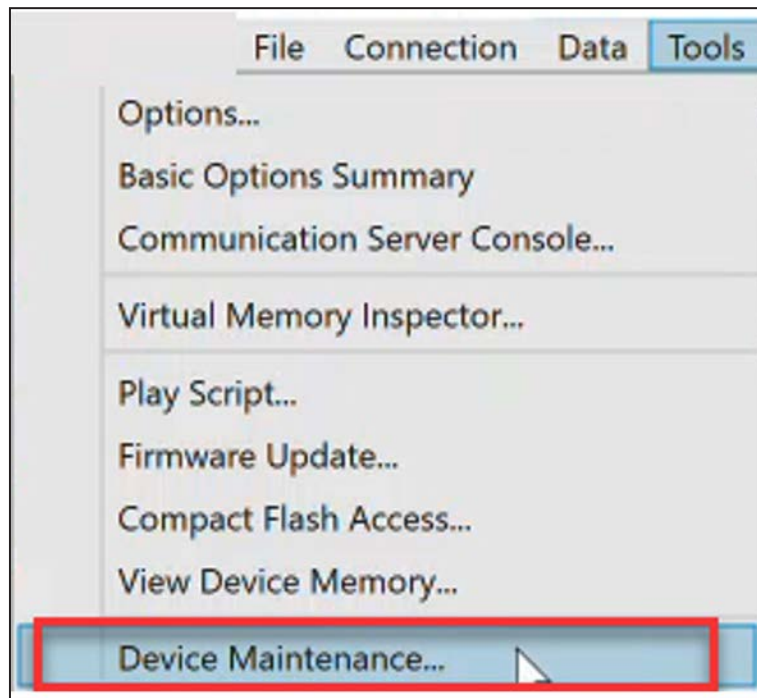

Figure 129. The Tools>Device Maintenance button.
- STEP 2.** Click on the **Tools>Device Maintenance** button. See Figure 129.